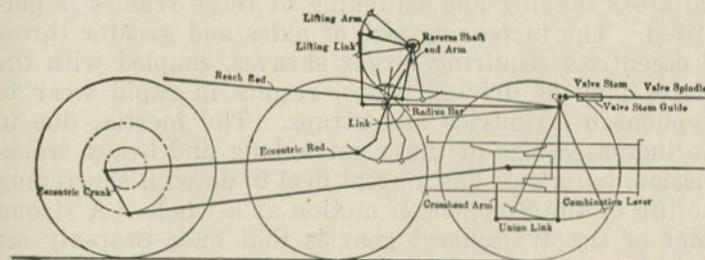

Fig. 292. The Walschaert Valve Gear.
*A. Referring to Fig. 292, the eccentric crank, the eccentric rod from this to the link, the radius bar from the*